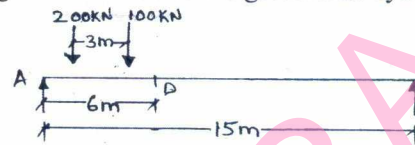

Fig.Q1(b)
b. Draw influence line for shear force and bending moment. Find maximum shear force and bending moment at D, 6m from the left hand support as shown in Fig.Q1(b). Also find the absolute maximum bending moment due to the given load system. (15 Marks)